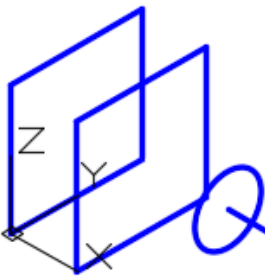

Figure Step 13
Step 13 Draw a 6 diameter circle locating its center at the bottom end of the pline that you just drew. (Figure Step 13)